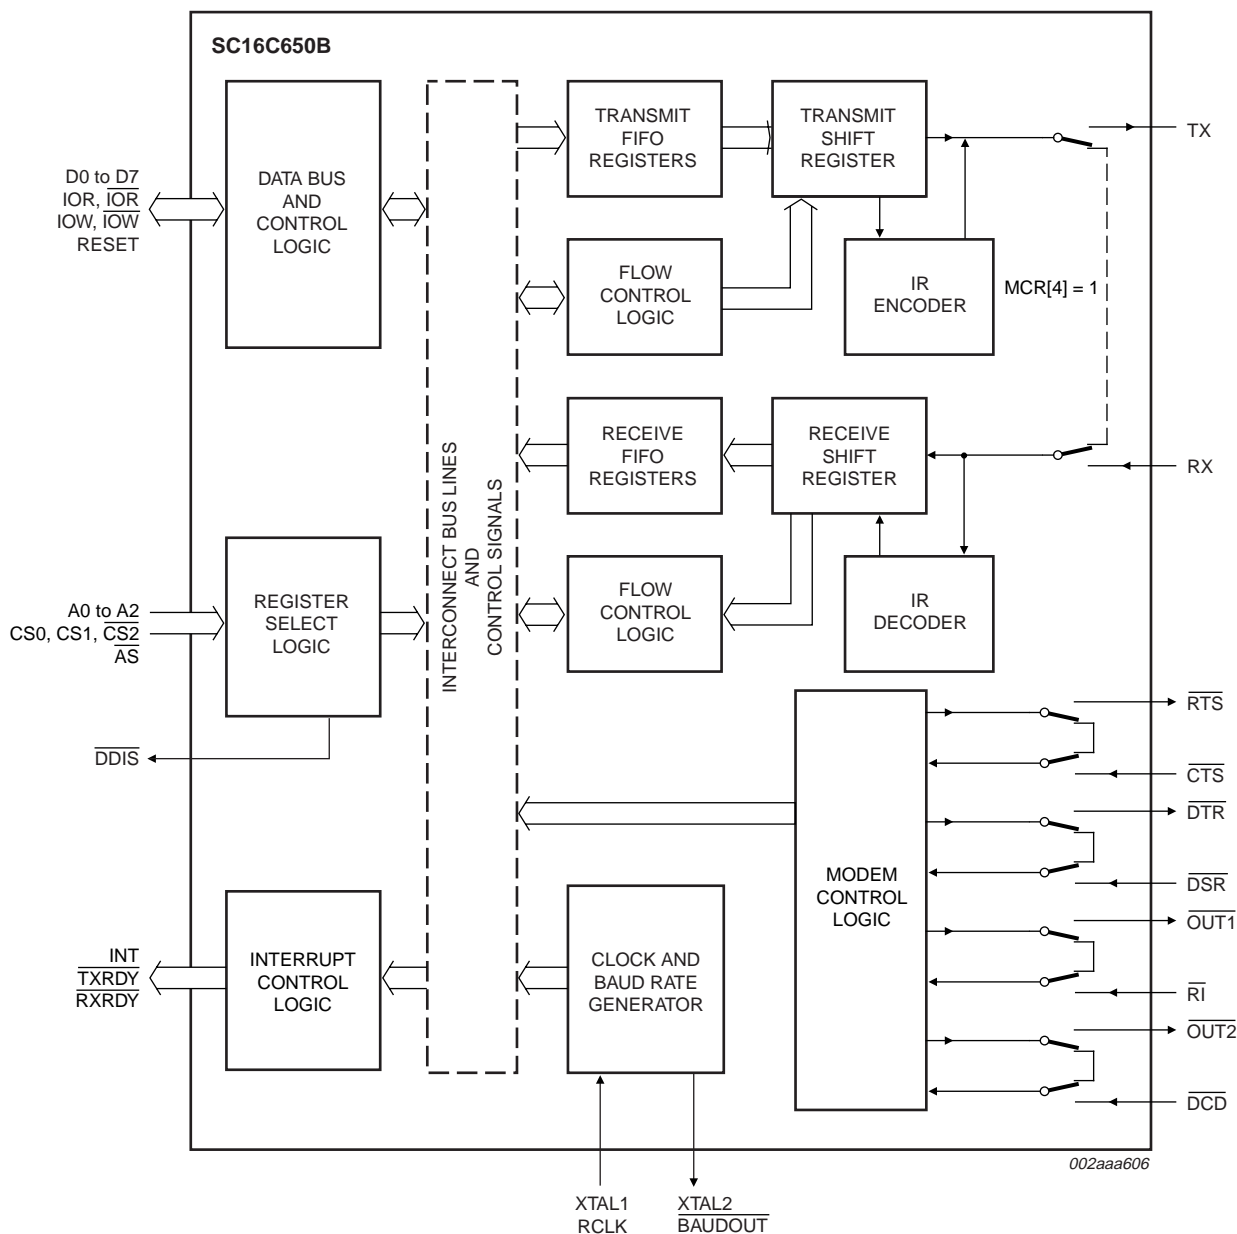

Fig 7. Internal loopback mode diagram
The internal loopback capability allows on-board diagnostics. In the loopback mode, the normal modem interface pins are disconnected and reconfigured for loopback internally. MCR[3:0] register bits are used for controlling loopback diagnostic testing. In the loopback mode, $\overline{\text{OUT1}}$ (bit 2) and $\overline{\text{OUT2}}$ (bit 3) in the MCR register control the modem $\overline{\text{RI}}$ and $\overline{\text{DCD}}$ inputs, respectively. MCR signals $\overline{\text{DTR}}$ (bit 0) and $\overline{\text{RTS}}$ (bit 1) are used to control the modem $\overline{\text{DSR}}$ and $\overline{\text{CTS}}$ inputs, respectively. The transmitter output (TX) and the receiver input (RX) are disconnected from their associated interface pins, and instead are connected together internally (see Figure 7). The $\overline{\text{CTS}}$, $\overline{\text{DSR}}$, $\overline{\text{DCD}}$, and $\overline{\text{RI}}$ are disconnected from their normal modem control input pins, and instead are connected internally to $\overline{\text{DTR}}$, $\overline{\text{RTS}}$, $\overline{\text{OUT1}}$ and $\overline{\text{OUT2}}$. Loopback test data is entered into the Transmit Holding Register via the user data bus interface, D0 to D7. The transmit UART serializes the data and passes the serial data to the receive UART via the internal loopback connection. The receive UART converts the serial data back into parallel data that is then made available at the user data interface D0 to D7. The user optionally compares the received data to the initial transmitted data for verifying error-free operation of the UART TX/RX circuits.